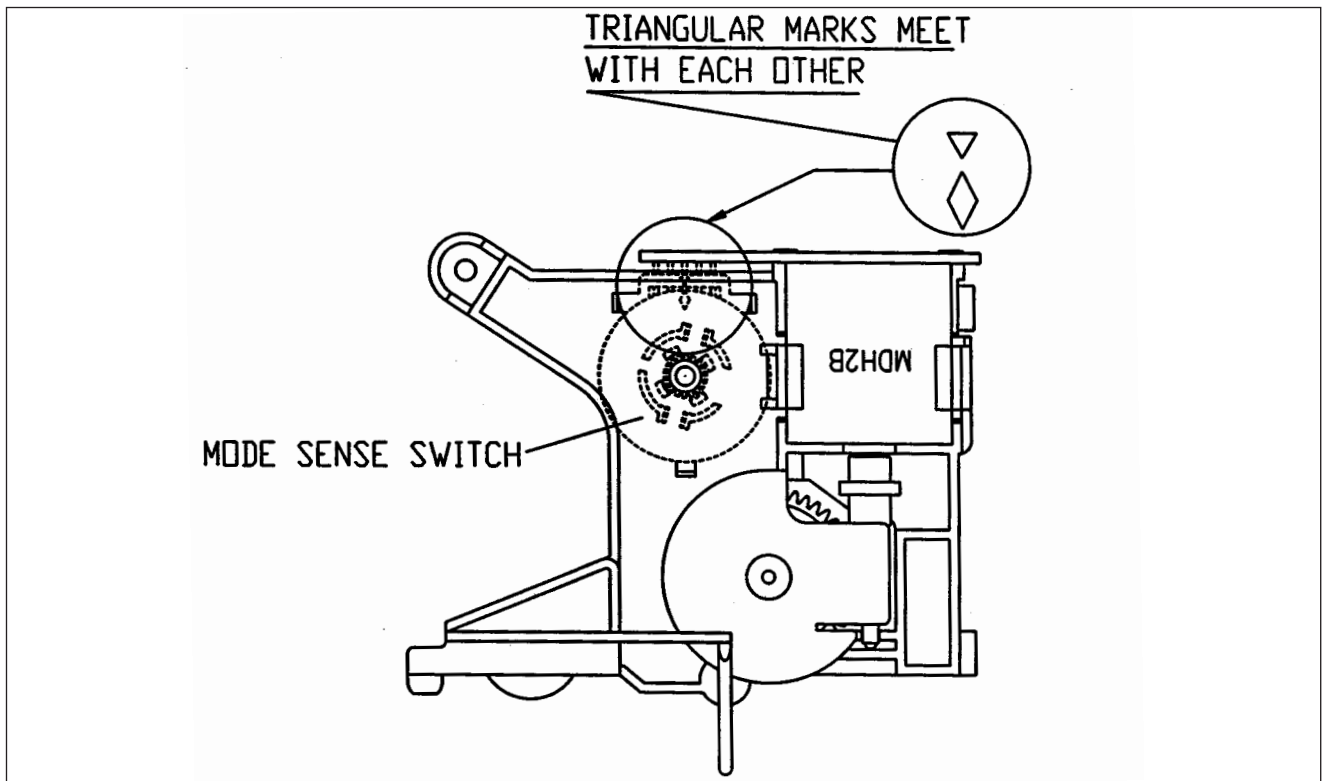

Fig. 3 - Mechanical checks/Mode Sense S/W Alignment
3. There are two (2) triangular marks on the mode sense switch. When installing the L/C bracket assembly on the main base, confirm that the two (2) triangular marks align with each other in the EJECT mode (Fig. 3)